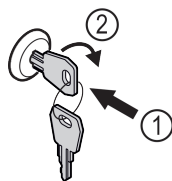

Fig. 143 Example illustration
- Insert key Fig. 143 (1).
- Turn key clockwise by 90° Fig. 143 (2).